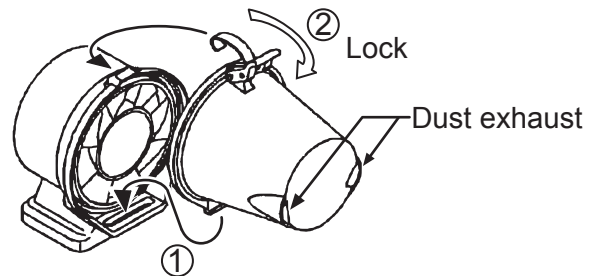

Figure 23. Latching Dust Pot
3. Reinstall dust pot onto air cleaner body and secure dust pot with locking latches (Figure 23).